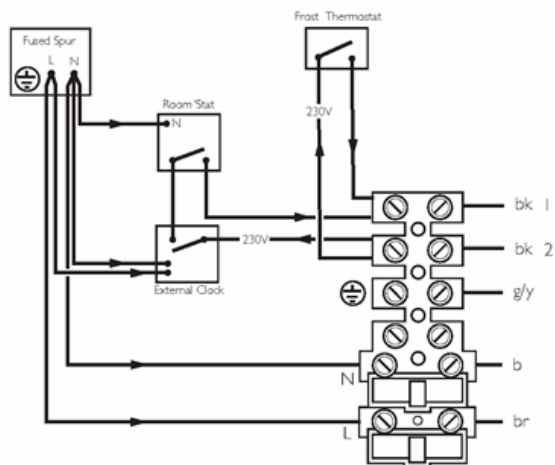

Fig. 33
6. Remove the link between terminals 1 & 2. The 230V supply at terminal 2 must be connected to the thermostat. The switched output from the thermostat must be connected to terminal 2. (Fig. 33). If the room thermostat being used incorporates an anticipator it **MUST** be wired as shown in Fig. 33.